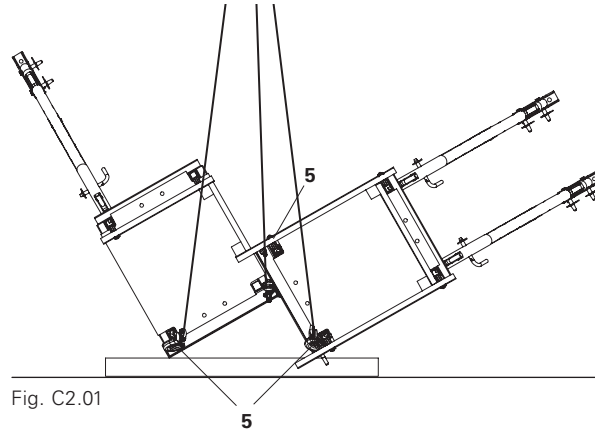

Fig. C2.01
1. Attach 3-sling lifting gear to the crane eyes (5), lift formwork to a vertical position and then transport to place of use. (Fig. C2.01)